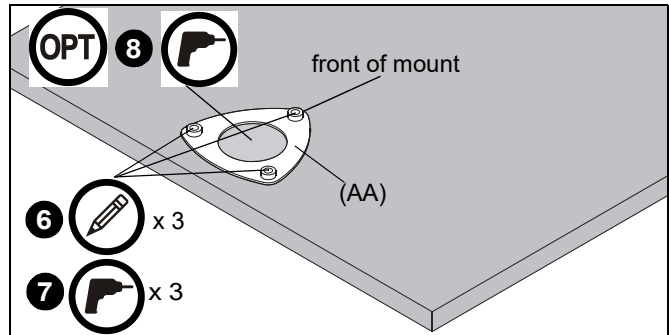

Figure 2
6. Use clamping plate (AA) as a template to mark locations for the three holes to be drilled at desired mounting location.
7. Drill three 5/16" holes at locations marked in Step 3. (See Figure 2)
**NOTE:** If cables are going to be routed through the table, an additional hole needs to be drilled in center of clamping plate (A). See Cable Management Section for details.
8. (Optional) If cables are going to be routed through the desk, drill an additional hole in the center of the clamping plate that is large enough to account for all cables that will be routed through the desk. (See Figure 2)